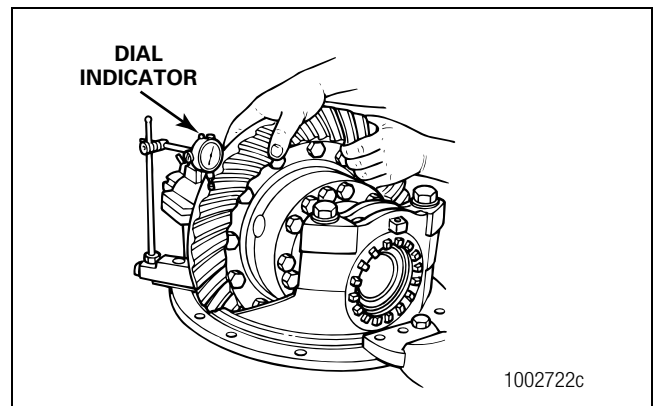

**Figure 3.17**
4. If necessary, use a brass drift and hammer to carefully tap the inner cup from the cage. Discard the cup. Figure 3.17.